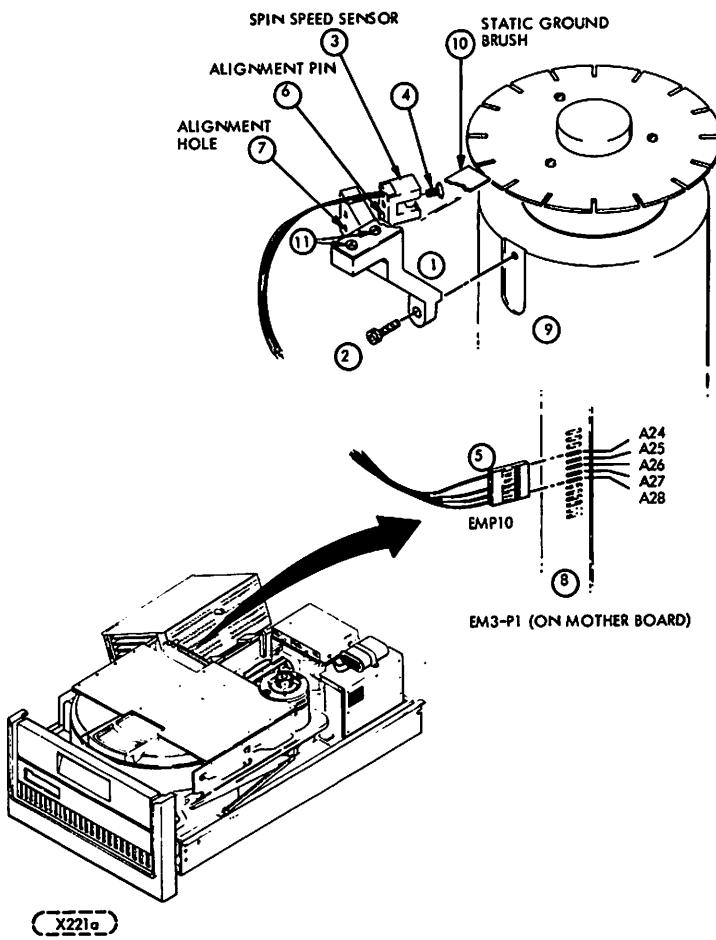

FIGURE 6-7. REMOVAL AND REPLACEMENT OF SPIN SPEED SENSOR ASSEMBLY
Perform the following procedure to remove and replace the Spin Speed Sensor. Refer to Figure 6-7.
5. Refer to Figure 6-7. Remove the two screws (11) which retain the Static Ground Brush (10).
7. Replace and tighten the two screws (11) which retain the brush to the Spin Speed Sensor bracket (1).